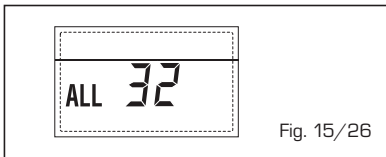

Fig. 15/26
- RS-485 BOARD COMMUNICATION ANOMALY IN MODBUS MODE "ALL 33" (fig. 15/27)